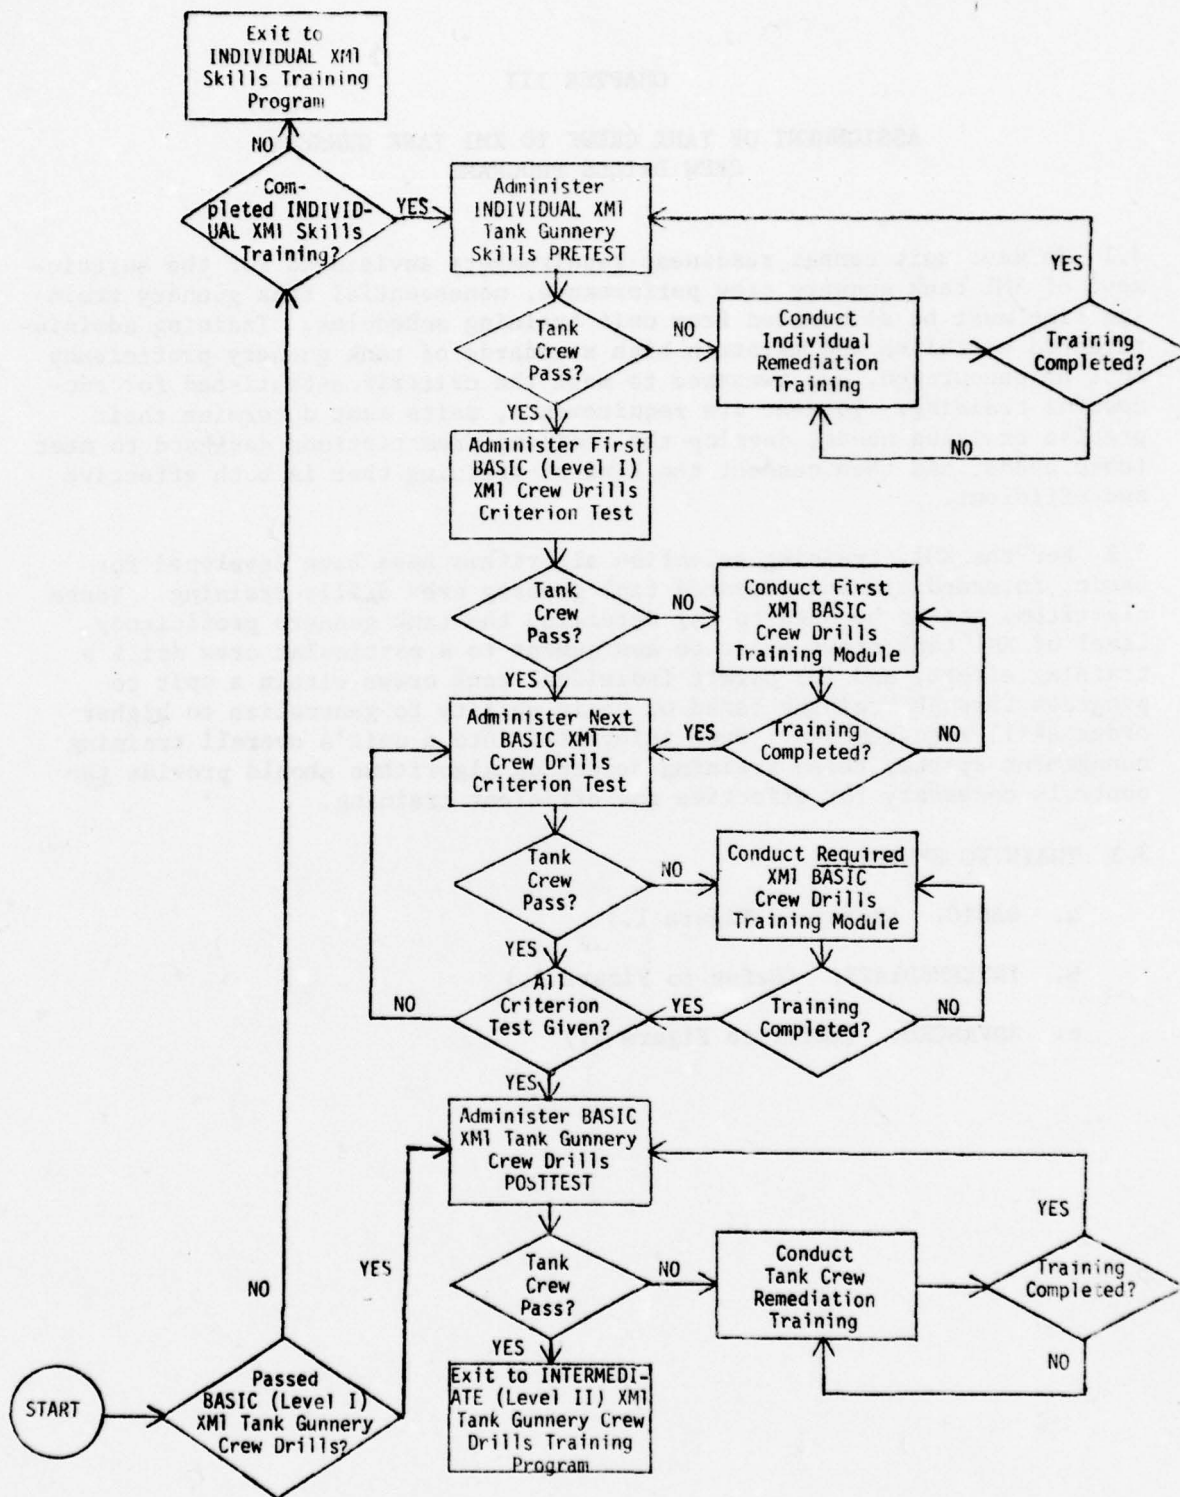

Figure 1. Training Selection Algorithm for Basic (Level I) XM1 Tank Gunnery Crew Drills Training.
- a. BASIC. (Refer to Figure 1.)